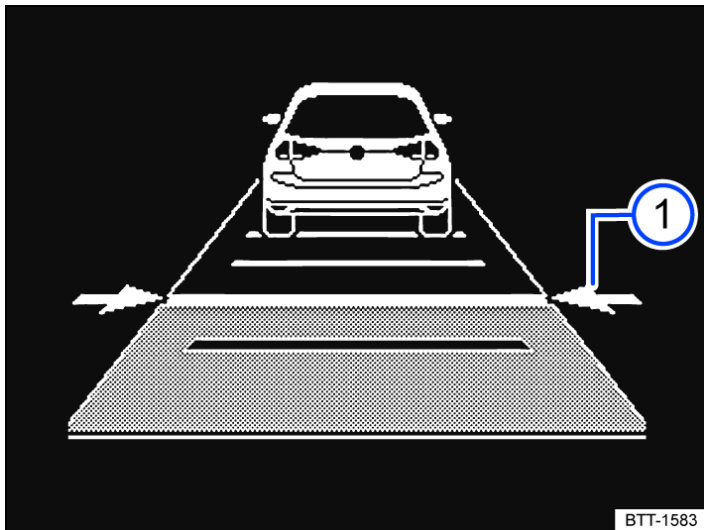

Fig. 1 On the instrument cluster display: set distance ① (illustration, the ACC is regulating).
The instrument cluster display shows the chosen setting → Fig. 1 ①. Please observe any country-specific requirements for the minimum distance.